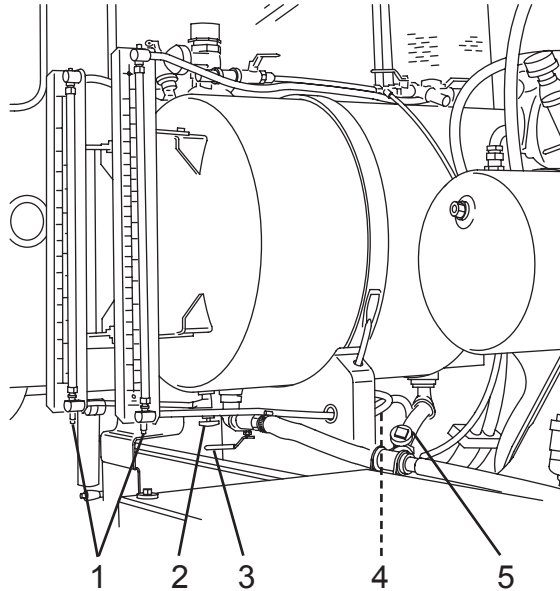

Figure 99
2. Remove the water tank drain plug(s), or open the main tank (Figure 99, Item 5) and chemical tank (if equipped) drain valves (Figure 99, Item 3).
3. Open the main tank (Figure 99, Item 4) and chemical (if equipped) sight glass isolator valves (Figure 99, Item 2).
4. Open the sight glass drain valves (Figure 99, Item 1).